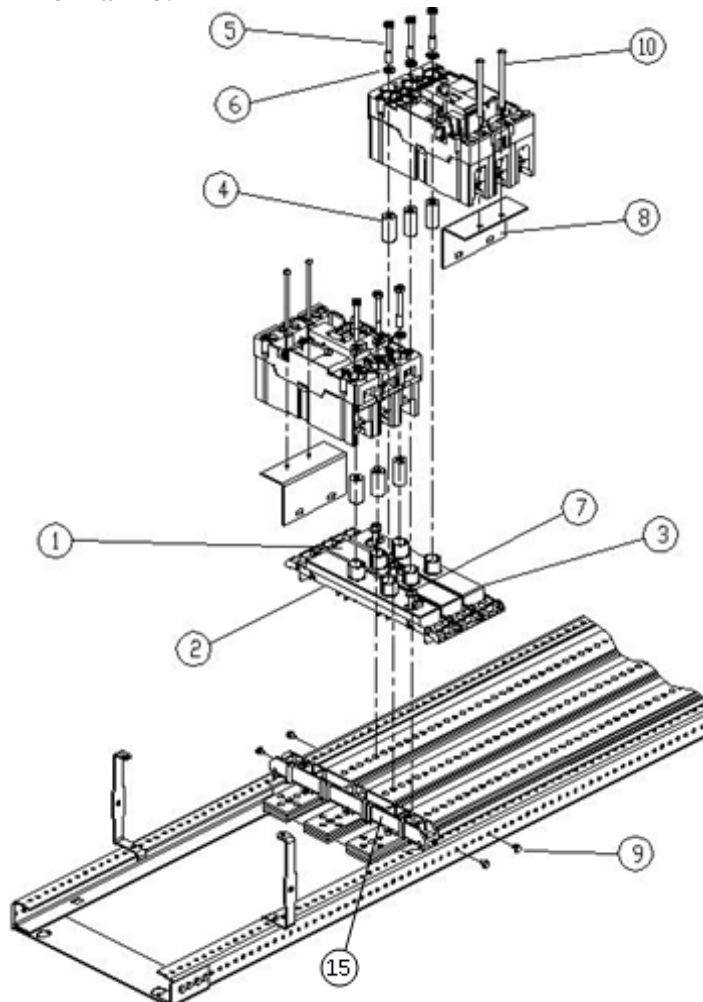
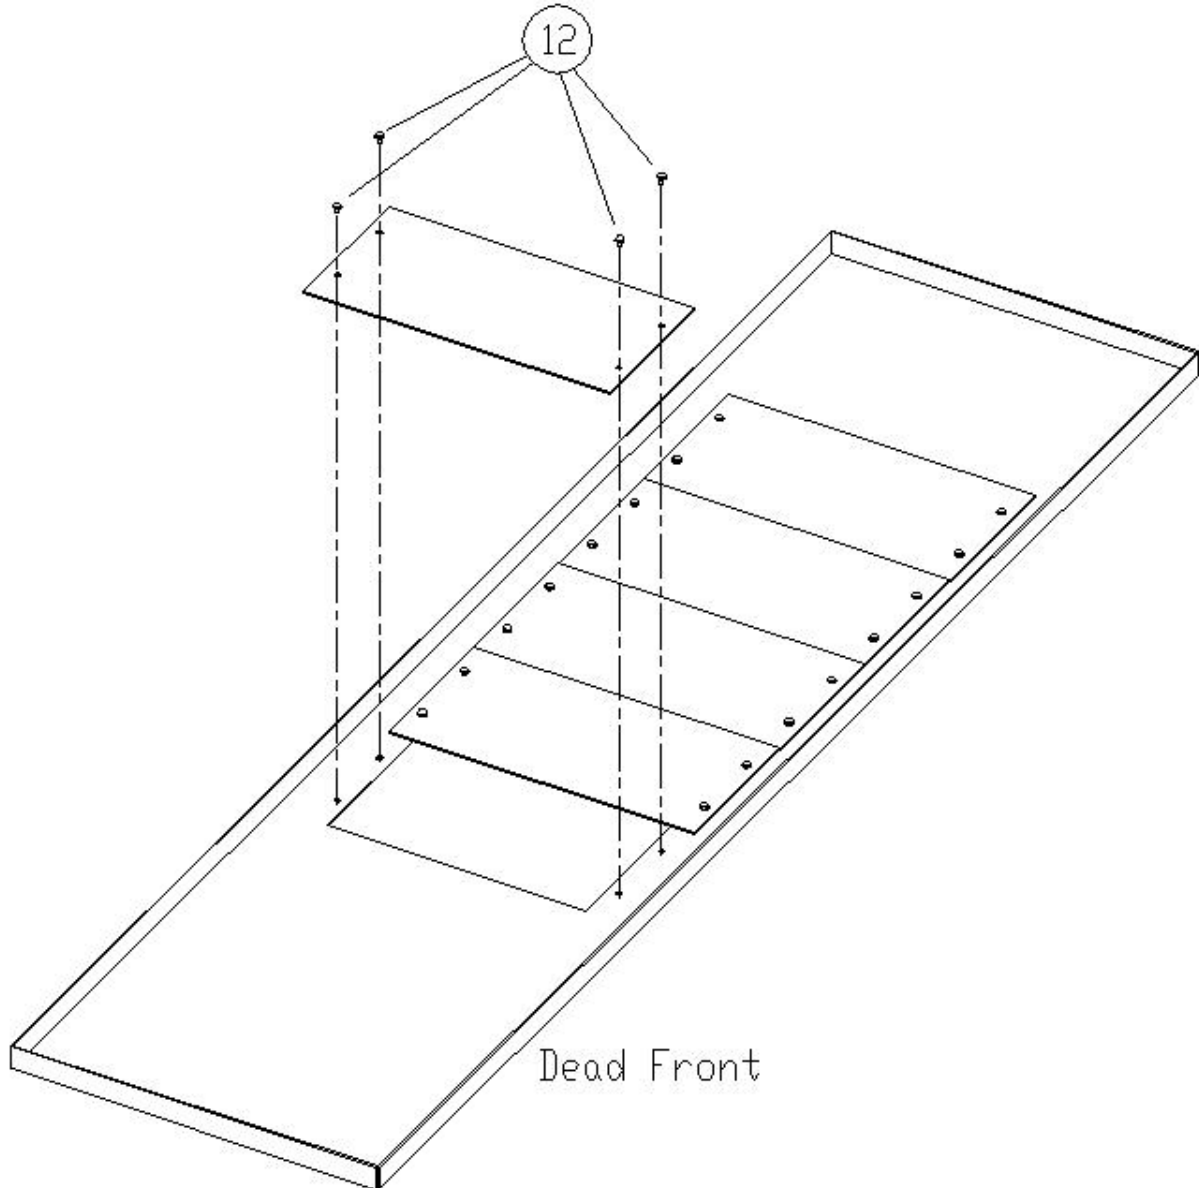

Figure 1. Installation of a SE/TED circuit breaker kit on interior, catalog number ASPP6SE6D, into an A-Series® II Panelboards.
Figure 2. Removing the shield inserts from the shield for SE/TED breaker installation in A-Series® II Panelboards.
Use the following procedure to install a SE/TED circuit breaker kit. Call-out numbers in the illustrations and numbers in brackets in the text refer to Item Numbers in Table 1. Installation of a six-pole kit is illustrated in Figure 1 or Figure 2.
4. Refer fig.no.1 to mount the breaker on interior. Place branch base for A phase [2] adjacent to crossbar [15] as shown in fig.1 and insert the screw [7] through slot provided to mount it to A phase main busbar. Similarly mount B phase branch base [1] to B phase main busbar adjacent to A phase branch base and C phase branch base [3] to C phase main busbar adjacent to B phase branch base. All phase branch bases should be clamped to main bus using screw [7] with 60 inch lb max-lb.
6. Place the conical washer [6] over the three  $\frac{1}{4}$ -28 x  $1\frac{3}{8}$  screws [5] and insert the screws through the holes in the top of the circuit breaker. Secure the three spools [4] to the underside of the breaker terminals with the screws [5]. Take care to assemble the screws to the spools as shown in Figure 1, with the tapped end of the spool toward the breaker terminal.
9. Remove the four screws [12] of existing filler plate from dead front where SE/TED breaker needs to be installed, as illustrated in Figure 2.